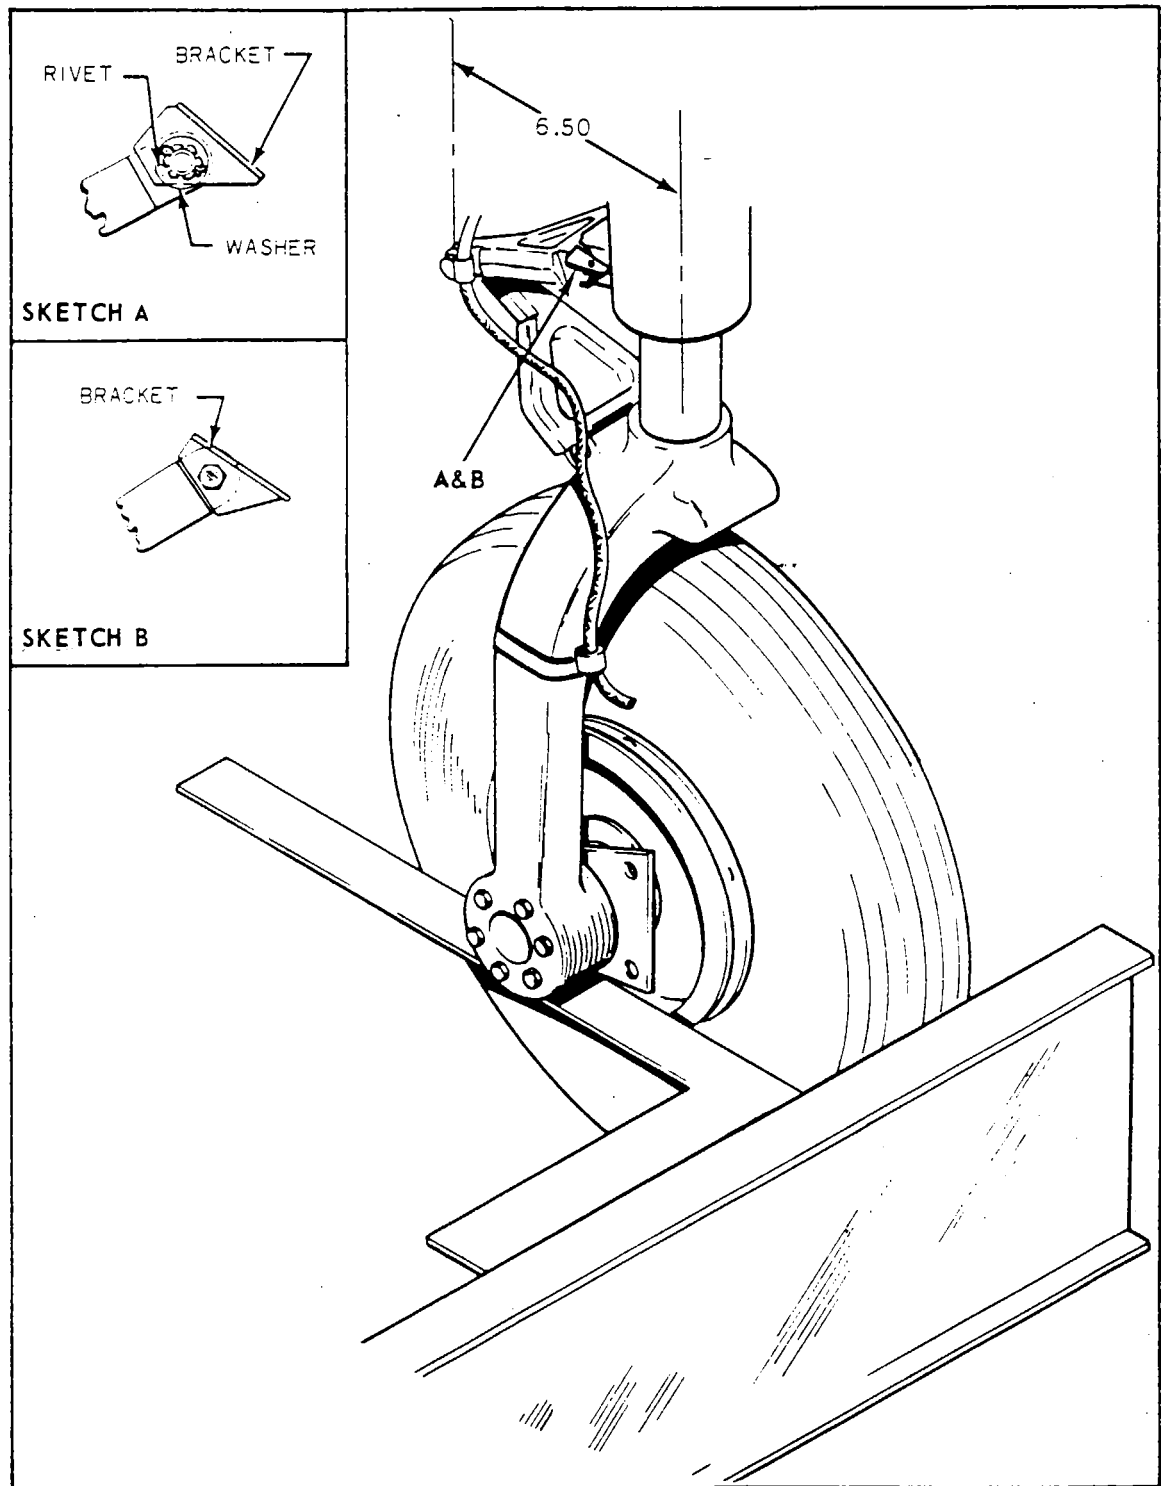

Figure 6A-9. Aligning Main Gear
g. If a new link on the top left main gear had to be installed or it had to be reversed during the alignment check, it will be necessary to check the gear safety switch (squat switch) bracket for engagement and locking in place. If the large machine surface of the link is inboard, the bracket is mounted with the small rivet hole next to link. (Refer to Sketch A, Figure 6A-9.) This hole should be aligned with centerline of the link and a .096 inch hole drilled .150 inch deep. Insert an MS20426AD3-3 rivet in the hole. This locking rivet is held in place by the flat washer, castellated nut and cotter pin. If link has to be reversed, then the bracket and bolt are also reversed. (Refer to Sketch B, Figure 6A-9.)